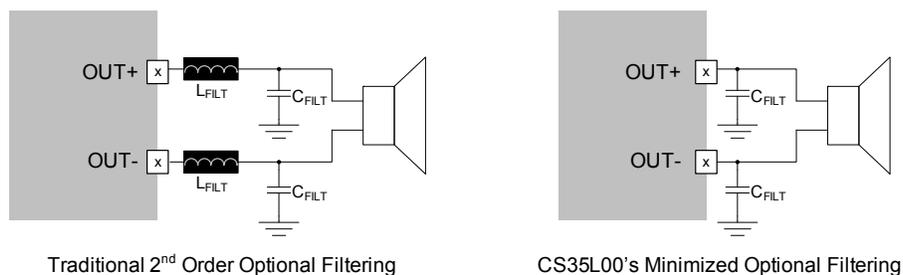

Figure 5. Optional Output Filter Components
In applications which require an output filter, the unique design of the CS35L00 allows a much smaller, less expensive output filter to be used than what is normally found in Class D amplifiers. In contrast to a second order filter implemented with a series inductive element (traditional inductor or ferrite beads) and a shunt capacitive element, basic filtering for the CS35L00 is accomplished by a single-order capacitive element attached to the OUTx terminals. This is highlighted in Figure 5 below. Of course, if the system requires more aggressive filtering, a ferrite bead can be added in series with the outputs to further attenuate system level noise.
Selection of the filter components should ensure that shunt elements (i.e. C_{FILT} in Figure 5 on page 17) present a very low impedance at the frequency corresponding to the tallest peak in the spectral plot. If needed, series components such as ferrite beads (i.e. L_{FILT} in Figure 5 on page 17) should be chosen to present a very high impedance at the frequency corresponding to the tallest peak in the spectral plot.
15. "Idle Current Draw vs. VBATT - SD Mode" capacitor values refer to C_{FILT} when configured as the "CS35L00's Minimized Optional Output Filter", shown in Figure 5 on page 17.